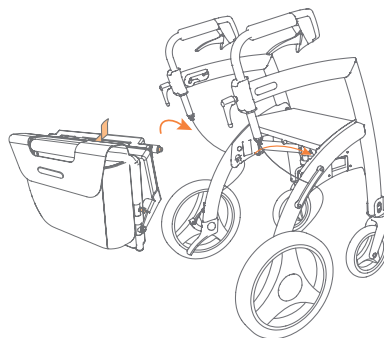

Figure 30: Attaching the wheelchair package.
- Lift the red handle with your other hand to retract the locking bolts (**Figure 30**).